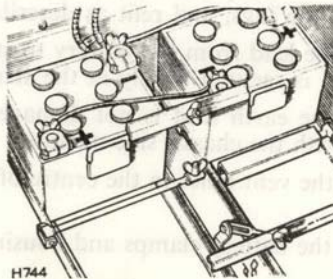

Fig. 95 Radio batteries, 24 volt models
- (2) **Radio batteries.** Two 12 volt batteries connected in series giving 24 volts output are used for the radio system. They are housed in the body beneath the radio table and are protected by a metal cover. See Fig. 95.